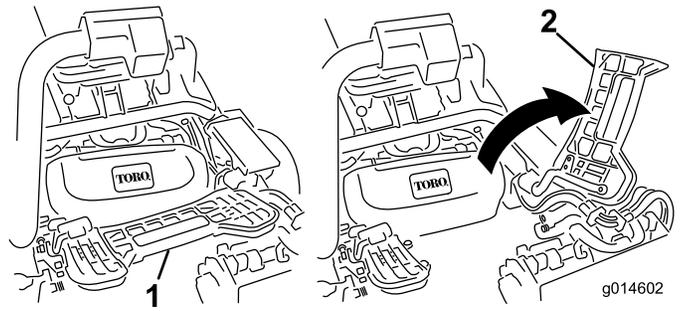

Figure 32
- Lift up on the foot rest and swing it open, allowing access to the center cutting unit position (Figure 32).